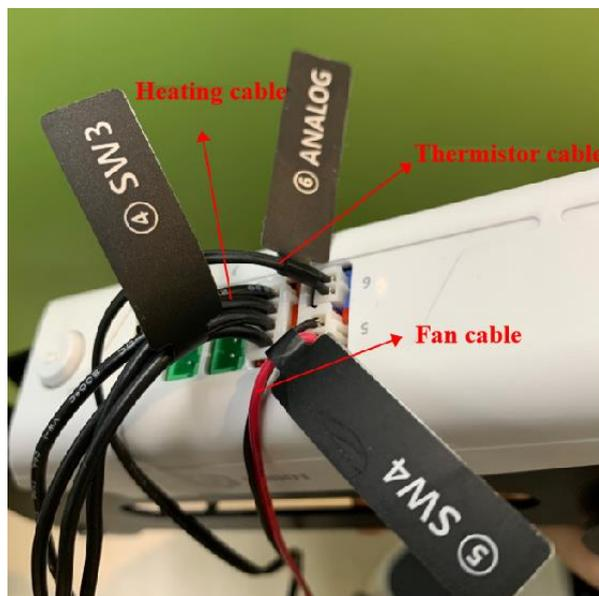

Figure 5.80 Connect hot end to the Forearm
Step 5 Insert the heating cable to the interface **4** on the Forearm, the fan cable to the interface **5** and the thermistor cable to the interface **6**, as shown in Figure 5.80.